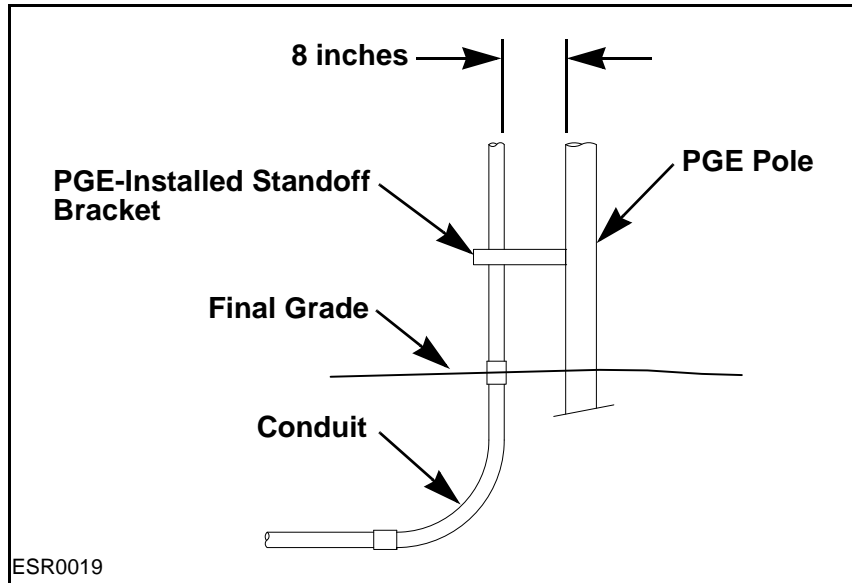

Figure 7-5: PGE-Installed Standoff Bracket
See **Figure 7-5** for a PGE-installed standoff bracket on the pole.
- When the conduit extends to a PGE pole or handhole, consult PGE for exact conduit location. PGE will install a bracket on the pole or mark the location on the pole for the conduit. There must be a minimum 8 inches between the pole and the backside of the conduit. See **Figure 7-5**.